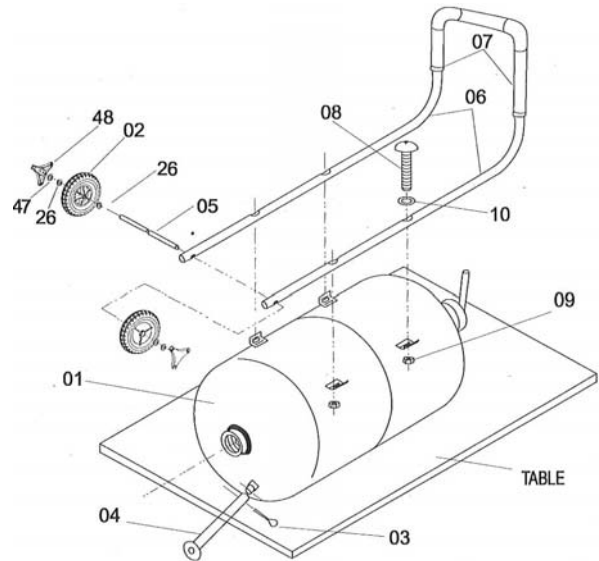

Figure 2
5. Lay the Abrasive Blast Tank on a flat level surface (such as a workbench or table top), with the handlebar mounting brackets facing up. (Figure 2)
6. Align the 4 holes in the Handlebar (06) with the four holes in the handlebar mounting brackets. Note: Keep the curved end of the handle facing upward.
7. Place a Washer (10) onto each of the four handlebar mounting Screws (08) and insert them through each of the four holes.
8. Place a nut (09) onto the end of each screw and firmly tighten with a wrench.
9. Locate the Wheel Axle (05) and slide it through the axle holes located at the bottom of the handlebar.
10. Slide a wheel Washer (26) onto each end of the wheel axle.
11. Slide a wheel (02) onto each end of the wheel axle.
12. Slide a wheel Washer (26) onto each end of the wheel axle.
13. Using snap ring pliers, install a Snap Ring (47) onto each end of the wheel axle. Note: Wheel axle has a groove cut into it - snap ring should rest in this groove so it will not slide off the wheel axle.